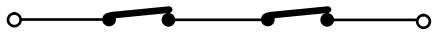

Fig. 32
N.B. If two or more safety devices have the same function (opening, closing, opening and closing, edge), the contacts must be connected to each other in series (fig. 32).
To install several safety devices, connect the N.C. contacts in series (fig. 32).